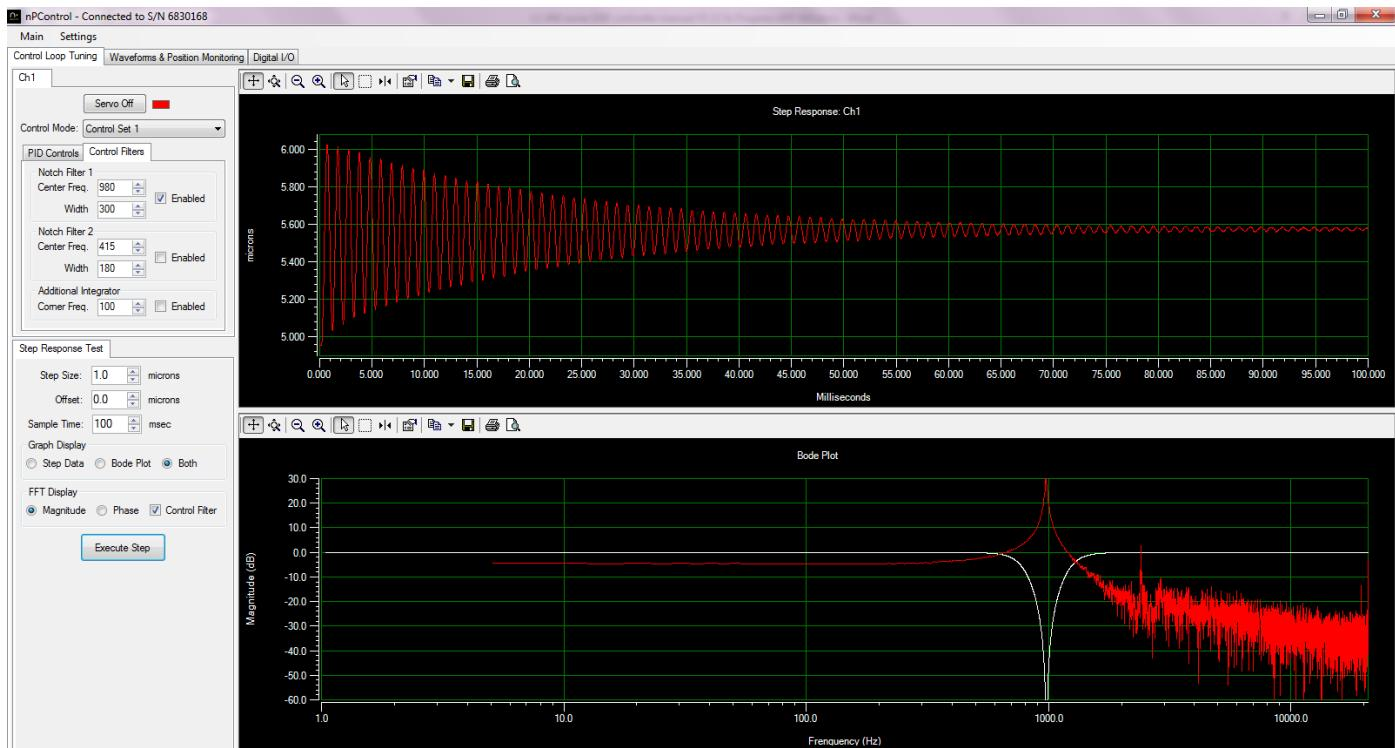

Figure 3-4: Applying single notch filter for the resonance identified in Figure 3-3.
- Set the **Width** of the notch filter to match the width of the resonance as shown in Figure 3-4. In some instances a wider filter will improve system stability. A filter that is too wide can cause step response overshoot.